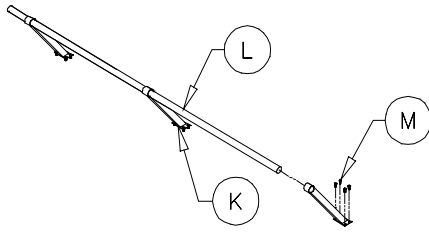

Figure 9
**Procedure:** Measure the outside distance from the front hood to the rear hood. Measure the length of the Support Wall Roll-tube (L) to make sure that it will fit between the hoods. The Support Wall Roll-tube should be 2" shorter than the distance that you measured from hood to hood. Cut off any excess material from the Support Wall Roll-tube if necessary. Slide the Support Wall Brackets onto the Support Wall Roll-tube. Fasten the Support Wall Roll-tube to the hoods using four 5/16"x2-1/2" truss head bolts (N) and 5/16" lock nuts. Evenly space the Support Wall Brackets between the hoods and secure to the top of the box wall using four 5/16"x1" self-threading bolts (M) provided (See Figure 9,10).